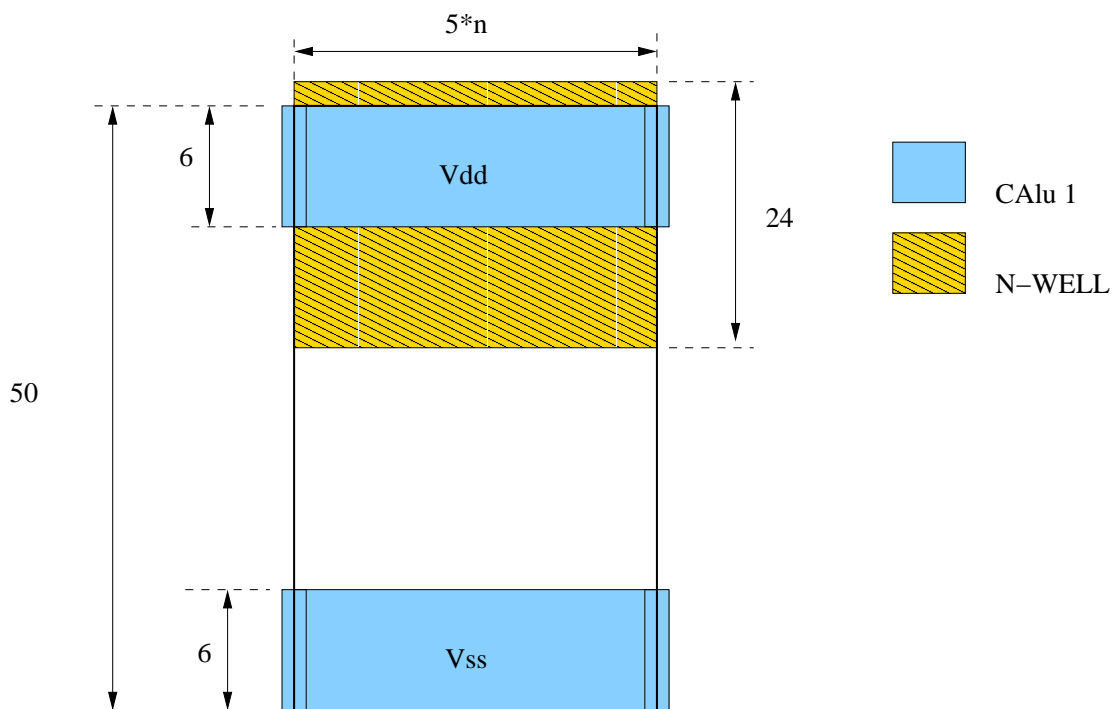

Figure 4: a cell model of the sxlib library
- draw the cell under **GRAAL** by respecting the gauge specified on the figure 4.
- draw the cell under **GRAAL** by respecting the gauge specified on the figure 4. You will use for that the instantiated function of **GRAAL** . The cell with instantiate is of course the inversor, which you will connect (will routing) manually.